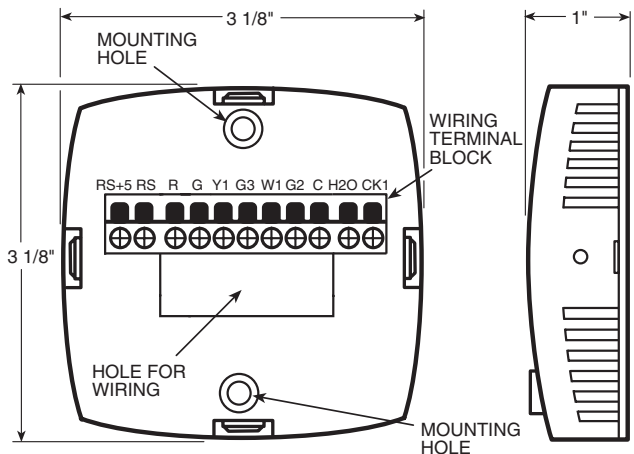

Fig. 1 — Thermostat Back Plate Mounting and Wiring
- 3. Thermostat can be mounted directly to the wall or onto the unit when required. See Fig. 1. An accessory wall mounting plate is available when an existing hole in the wall is too large for the thermostat or when mounting to a junction box in the wall (the thermostat will not completely cover a 2 x 4-in. junction box).
- 5. Remove the thermostat cover from back plate to expose mounting holes and wiring connections. See Fig. 1.